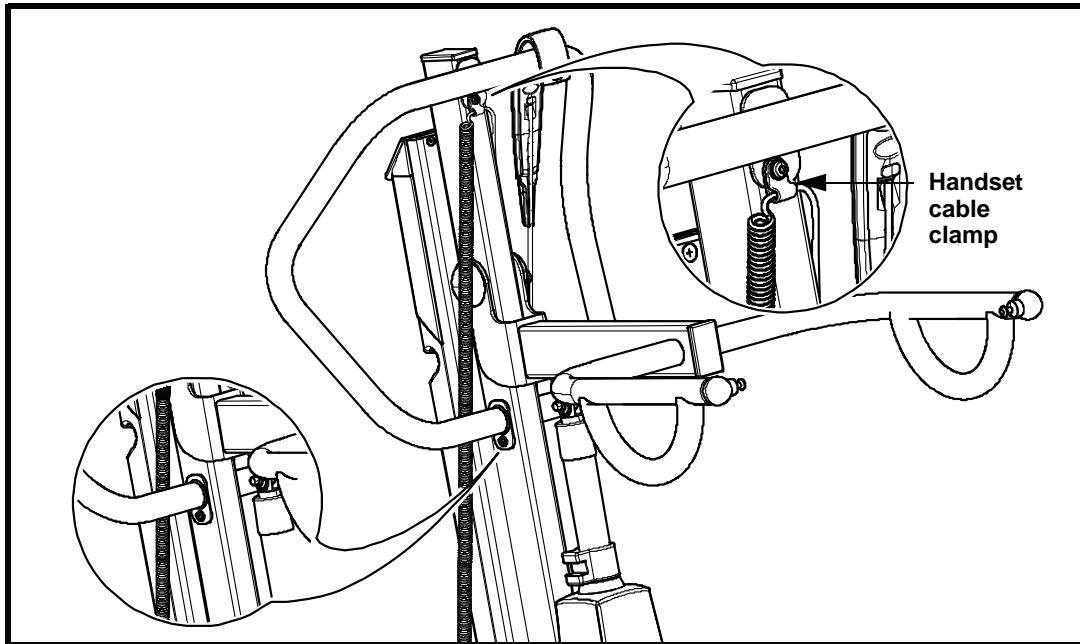

Fig. 22
- 2) Unscrew the two bolts at the lower end of the handle on each side of the mast and the one at the top (see Fig. 22).
- 3) Install the handset cable clamp as per Fig. 22.